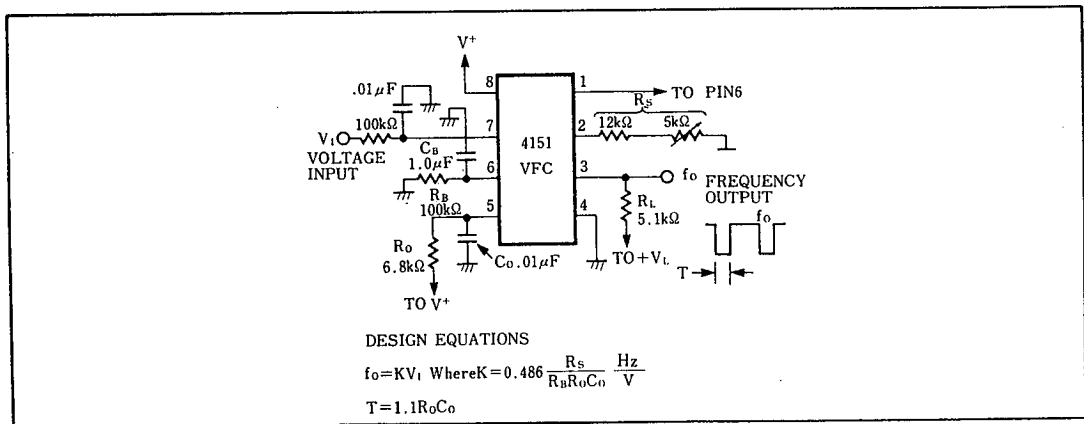
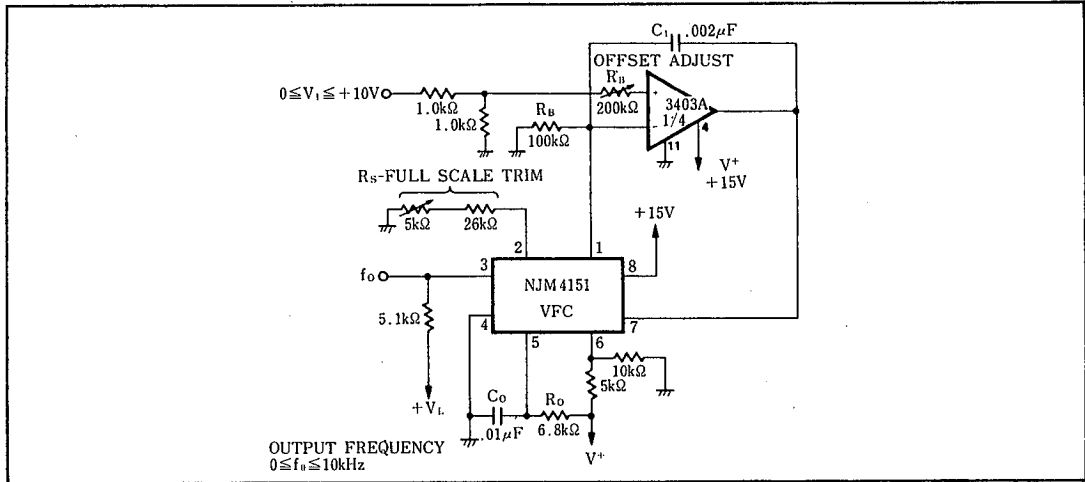
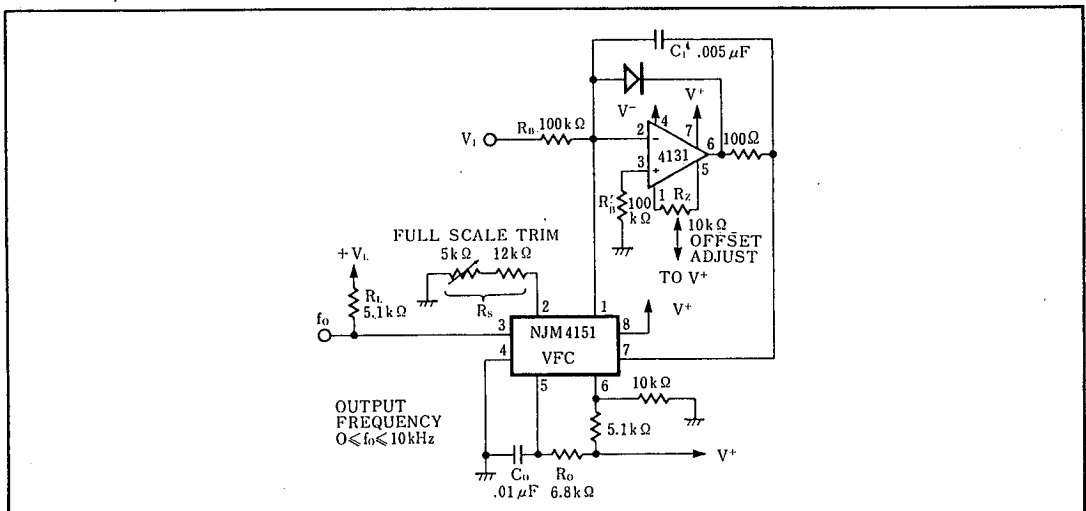

Figure 2. Single Supply Voltage-to-Frequency Converter
Figure 3. Precision Voltage-to-Frequency Converter Single Supply
Figure 4. Precision Voltage-to-Frequency Converter
Figure 2 shows the simplest type of VFC that can be made with the 4151. Input voltage range is from 0 to +10V, and output frequency is from 0 to 10kHz. Full scale frequency can be tuned by adjusting  $R_S$ , the output current-set resistor. This circuit has the advantage of being simple and low in cost, but it suffers from inaccuracy due to a number of error sources. Linearity error is typically 1%. A frequency offset will also be introduced by the input comparator offset voltage. Also, response time for this circuit is limited by the passive integration network  $R_B C_B$ . For the component values shown in Figure 2, response time for a step change input from 0 to +10V will be 135msec. For applications which require fast response time and high accuracy, use the circuits of Figure 3 and 4.
For applications which require a VFC which will operate from a single positive supply with positive input voltage, the circuit of Figure 3 will give greatly improved linearity, frequency offset, and response time. Here, an active integrator using one section of the NJM3403A quad ground-sensing op-amp has replaced the  $R_B$ - $C_B$  network in Figure 2. Linearity error for this circuit is due only to the 4151 current source output conductance. Frequency offset is due only to the op-amp input offset and can be nulled to zero by adjusting  $R_B$ . This technique uses the op-amp bias current to develop the null voltage, so an op-amp with stable bias current, like the NJM3403A, is required.
In this application (Figure 4) the 4151 VFC is used with an operational amplifier integrator to provide typical linearity of 0.05% over the range of 0 to  $-10V$ . Offset is adjustable to zero. Unlike many VFC designs which lose linearity below 10mV, this circuit retains linearity over the full range of input voltage, all the way to 0V.
The 4131 operational amplifier integrator improves linearity of this circuit over that of Figure 2 by holding the output of the source, Pin 1, at a constant 0V. Therefore linearity error due to the current source output conductance is eliminated. The diode connected around the op-amp prevents the voltage at 4151 pin 7 from going below 0. Use a low-leakage diode here, since any leakage will degrade the accuracy. This circuit can be operated from a single positive supply if an NJM3403A ground-sensing op-amp is used for the integrator. In this case, the diode can be left out. Note that even though the circuit itself will operate from a single supply, the input voltage is necessarily negative. For operation above 10kHz, bypass 4151 pin 6 with  $0.01\mu F$ .
|                  | Figure 2 | Figure 3 | Figure 4 |
4. Avoid stray coupling between 4151 pins 5 and 7, which could cause false triggering. For the circuit of Figure 2, bypass pin 7 to ground with at least  $0.01\mu\text{F}$ . If false triggering is experienced with the precision mode circuits, bypass pin 6 to ground with at least  $0.01\mu\text{F}$ . This is necessary for operation above  $10\text{kHz}$ .
1. Set  $R_S=14\text{k}\Omega$  or use a  $12\text{k}\Omega$  resistor and  $5\text{k}\Omega$  pot as shown in the figures. (The only exception to this is Figure 4.)
- a) For the circuit of Figure 2 make  $C_B=10^{-2}[1/f_0]$  Farads. Smaller values of  $C_B$  will give faster response time, but will also increase frequency offset and nonlinearity.
- a) For the circuits of Figure 2 and 3 keep the values of  $R_B$  and  $R_B'$  as shown and use an input attenuator to give the desired full scale input voltage.
- b) For the precision mode circuit of Figure 4, set  $R_{11}=V_{10}/100\mu\text{A}$  where  $V_{10}$  is the full scale input voltage. Alternately the op-amp inverting input (summing node) can be used as a current input with full scale input current  $I_{10}=-100\mu\text{A}$ .
- I. Design a precision VFC (from Figure 4) with  $f_0=100\text{kHz}$  and  $V_{10}=-10\text{V}$ .